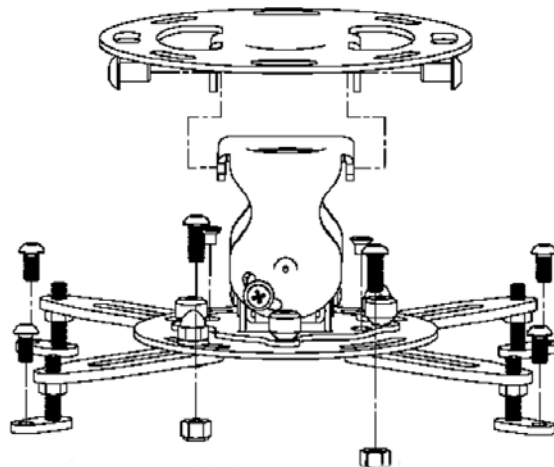

Figure 9. Install Security Parts Kit
2. Using security wrench (provided), replace screws with the security screws provided in the security kit (see Figure 9).